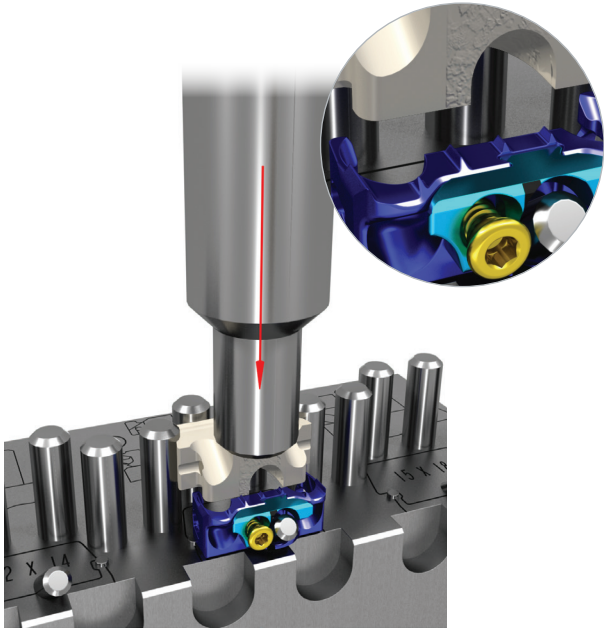

Figure 37
- Repeat the steps for Pre-Operative Planning and Patient Positioning through Implant Assembly on pages 6–10 (Figure 37).